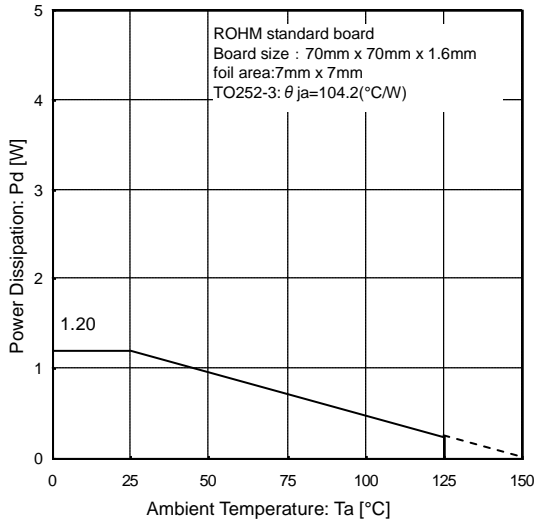
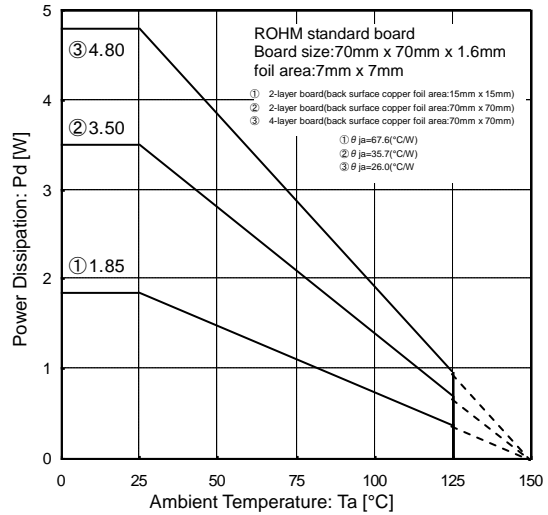

Figure 10
Figure 11
When operating at temperatures above $T_a=25^{\circ}\text{C}$, please refer to the derating factor shown in Figure 10 and Figure 11. The IC characteristics are closely related to the temperature at which the IC is used. It is necessary to operate the IC at temperatures below the maximum junction temperature (T_{jmax}).
Figure 10 and Figure 11 show the acceptable loss and derating factor of the TO252-3 package. The chip junction temperature (T_j) may be quite high even if the ambient temperature (T_a) is at room temperature (25°C). It is recommended to operate the IC at temperatures where Power Consumption (P_c) is less than the Power Dissipation (P_d).
The calculation method for Power Consumption P_c (W) is as follows : (Figure 11③)
$$I_o \leq \frac{2.469 - 10 \times I_{CC}}{5} \quad \left(\begin{array}{l} \text{Figure 11③: } \theta_{ja}=26.0^{\circ}\text{C/W to } -38.4\text{mW}/^{\circ}\text{C} \\ 25^{\circ}\text{C}=4.80\text{W to } 85^{\circ}\text{C}=2.496\text{W} \end{array} \right)$$